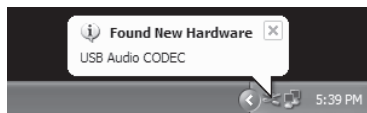

Figure 1
1. The first time you plug the G Track into a USB port, Windows will install the universal drivers for that port. A balloon tip will pop up, telling you it has found the USB Audio codec (figure 1).